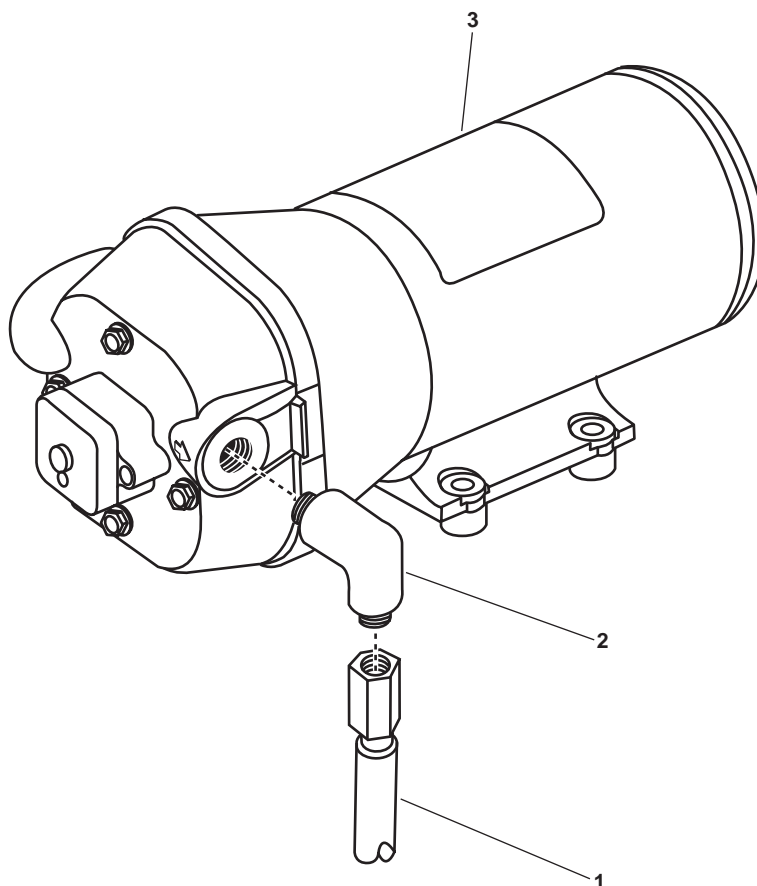

Figure 3. Fresh Water Flush Pump (Outlet Side)
7. Disconnect the outlet line (figure 3 item 1) from the outlet fitting (figure 3, item 2).
10. Remove the outlet fitting (figure 3, item 2) from the fresh water flush pump (figure 3, item 3).
3. Install the outlet fitting (figure 3, item 2) in the fresh water flush pump (figure 3, item 3).
6. Connect the outlet line (figure 3 item 1) to the outlet fitting (figure 3, item 2).